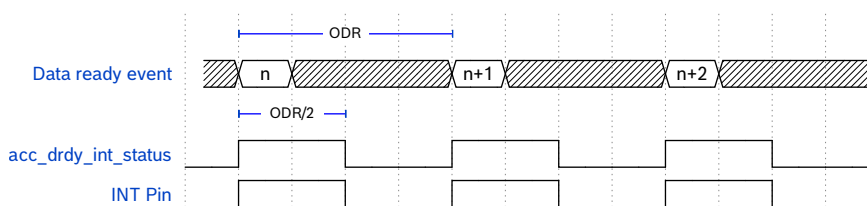

Figure 19: Interrupt output when auto clear mechanism of the data ready interrupt is enabled
**Auto Clear Mechanism of the Data Ready Interrupt** Figure 19 shows the timing diagram when the auto clear mechanism of the data ready interrupt is enabled. Both the acc\_drdy\_int and INT pin is cleared automatically after the half of the ODR duration.